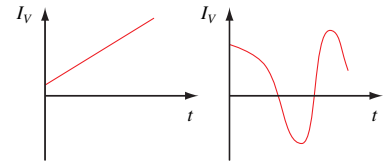

Figure 1.6: Volume currents as a functions of time. Currents can change slowly or quickly, they can be positive or negative.
16. Describe the current shown in the diagram on the left in Fig. 1.6. Do the same for the diagram on the right.